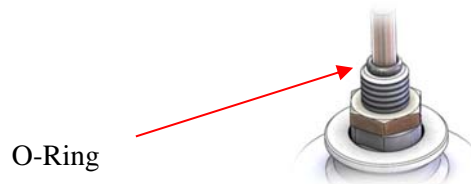

Figure 33: Lift Lever O-ring
11. Lubricate and place the seal adjustment nut o-ring over the lift lever rod. See Figure 33. If the valve has an open lift lever configuration, this step is omitted since there will not be an o-ring used.